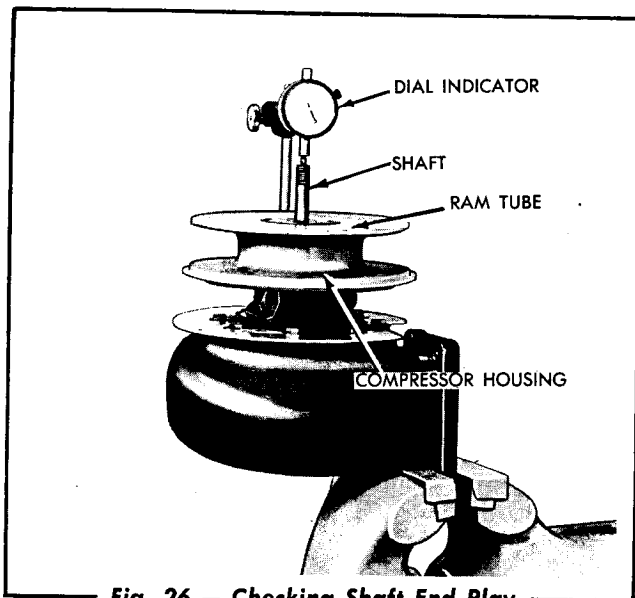

Fig. 26 — Checking Shaft End Play
- a. Mount dial indicator with contact point resting against end of shaft (Fig. 26).